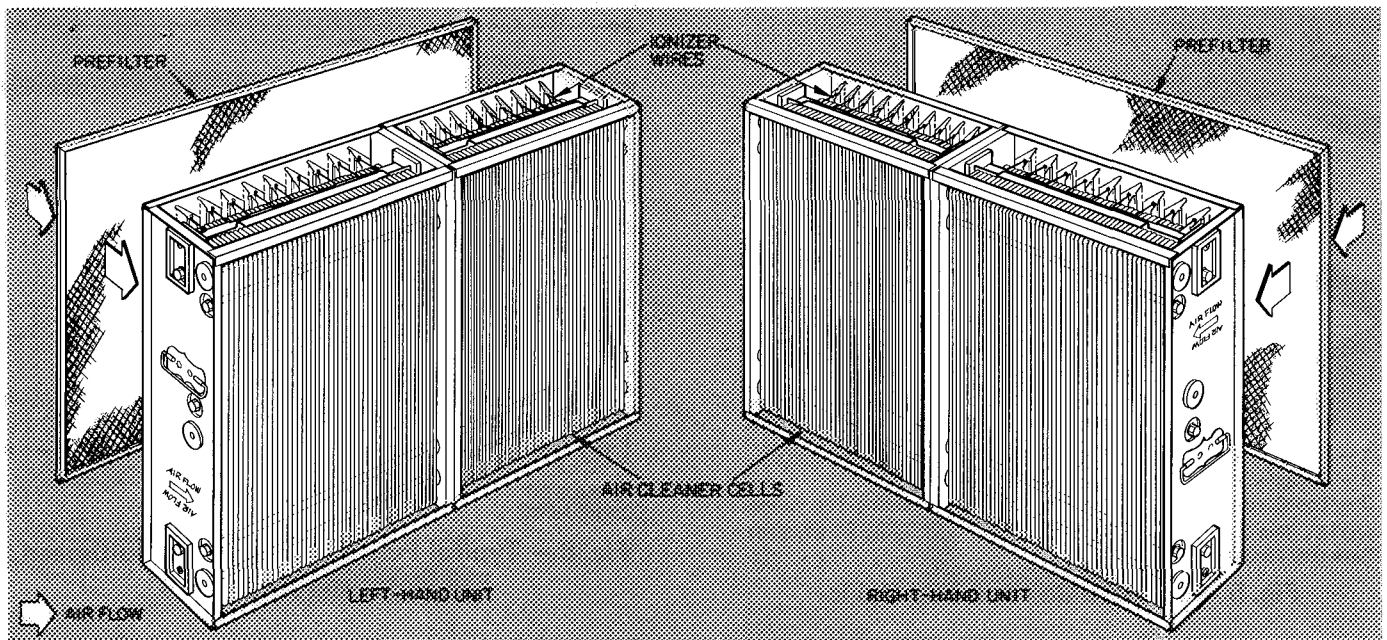

Fig. 3 – Left- and Right-Hand Assemblies
2. Unit can be installed with air flow thru the cabinet in either direction. No changes to the cabinet are necessary when reversing the air flow direction thru air cleaner. See Fig. 3.
9. Slide prefilter and air cleaner cells into cabinet. Units are shipped for right-hand installation. To convert from a right- to a left-hand unit, reverse the position of the prefilter and the air cleaner cells in the cabinet as indicated in Fig. 3. Be sure the air flow arrows are pointing to the direction of air flow thru unit, and the ionizer wires in the cell are adjacent to the prefilter. The 31MC220 high-efficiency mechanical filter does not have a prefilter or electronic cell. Simply reverse position of filter element to change from right- to left-hand. An air flow direction arrow is stamped on the filter element.